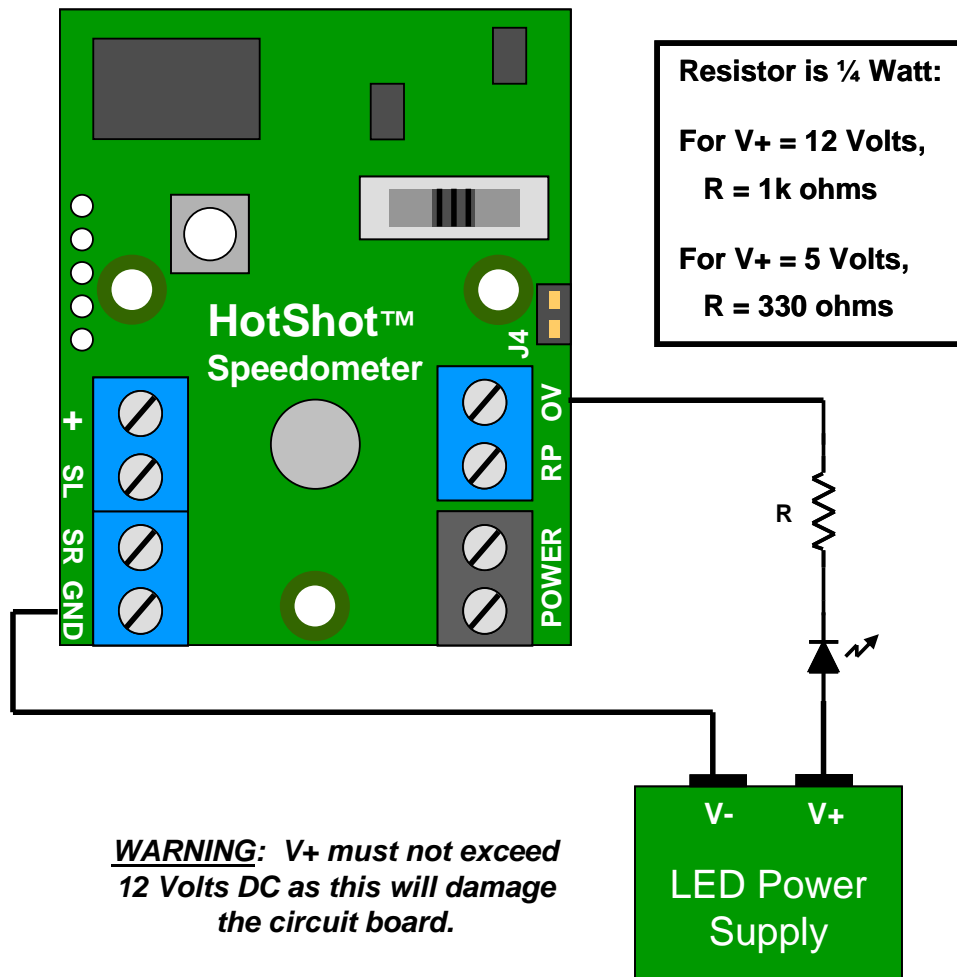

Figure 1: Driving an LED
Figure 1 shows how the Over Speed Limit (OV) output from the **Speedometer** circuit board can be wired to drive one LED. Resistor values (R) for common V+ voltages are shown.